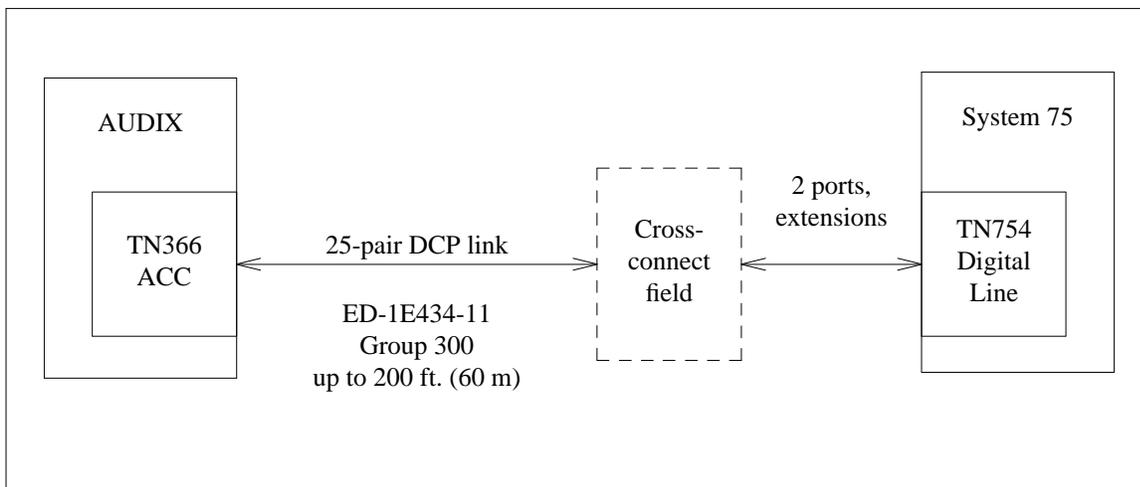

Figure 7: System 75 AUDIX Networking Link
- AUDIX Networking link (optional), connecting AUDIX to a maximum of 100 other AUDIX machines. Analog or digital facilities may be used between switches. See figure 7.
AUDIX Networking is an optional AUDIX R1V3 feature that allows AUDIX adjuncts (which may be different AUDIX models) to communicate with other AUDIX machines (which may be connected to different types of switches) using either analog or digital facilities on the switch. All AUDIX Networking machines require a TN366 AUDIX communications controller (ACC) circuit pack and a 25-pair ED-1E434-11 Group 300 cable to connect the ACC circuit pack to a digital port on the local (host) switch (see figure 7). Two physical Digital Communications Protocol (DCP) links (two transmit and receive pairs) are connected.